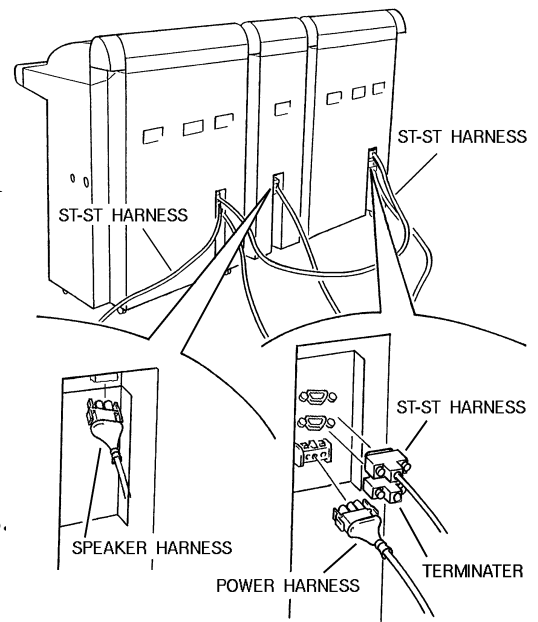

Fig. 29
7. Connect the speaker harness and the track unit harness to each station unit. Refer to Fig. 29.
9. Same as in Step 8, connect the assemblies using the ST-ST harnesses. Refer to Fig. 29.